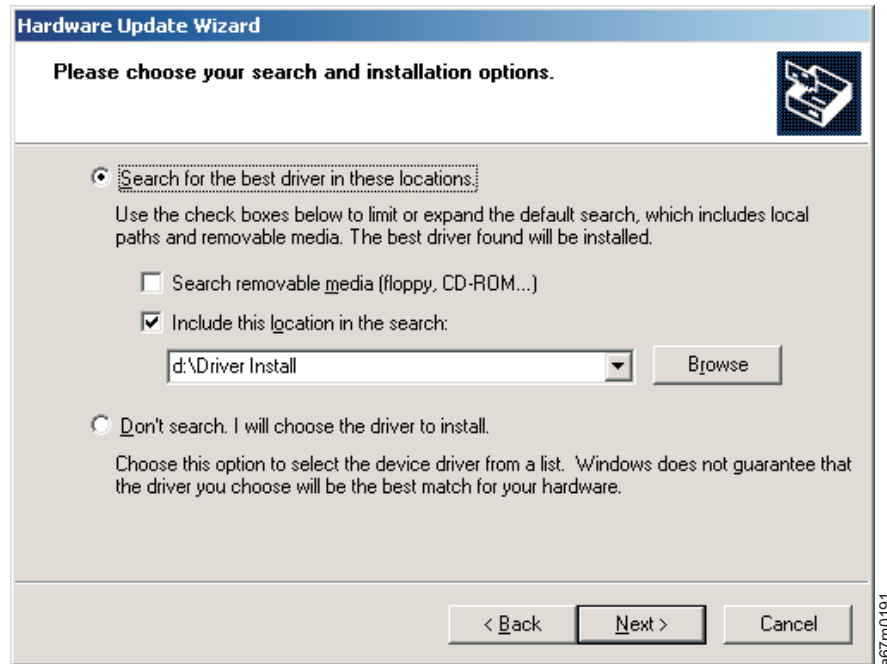

Figure 37. Search and Installation Options
20. The Wizard will prompt you to specify your search and installation options. Select the **Search for the best driver in these locations** radio button. Deselect the **Search removable media (floppy, CD-ROM...)** check box and select the **Include this location in the search** check box. Type the name of the directory into which you unzipped the driver files. See Figure 37.